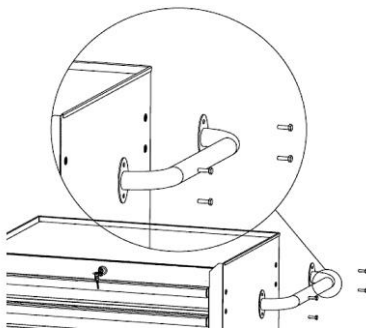
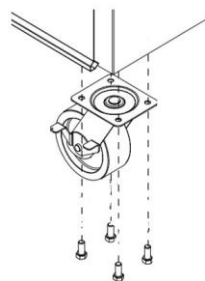

Fig. 1
Fig. 2
3. Using the locks (B), ensure all drawers (F) and compartment (C) are secured.
4. Attach handle (A) to either side of the cabinet using the spring washers (#18), flat washers (#19) and bolts (#14) provided (Fig. 1).
5. Place the swivel casters (E) over top of the holes on the handle side and middle of the cabinet.
6. Secure in place using the bolts (#9) provided (Fig. 2).
7. Place the two fixed casters (D) over top of the holes on the non-handle side of the cabinet.
8. Secure in place using the bolts (#9) provided (Fig. 2).